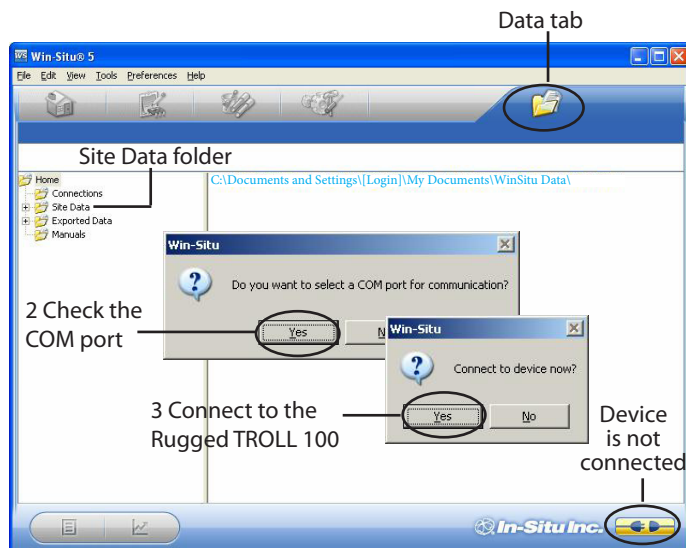

Fig. 1. Win-Situ Data tab on first connection
- Start Win-Situ by double-clicking the desktop shortcut . Win-Situ opens at the Data tab, shown in Fig. 1.
- On the Data tab, click the Site Data folder (Fig. 1).